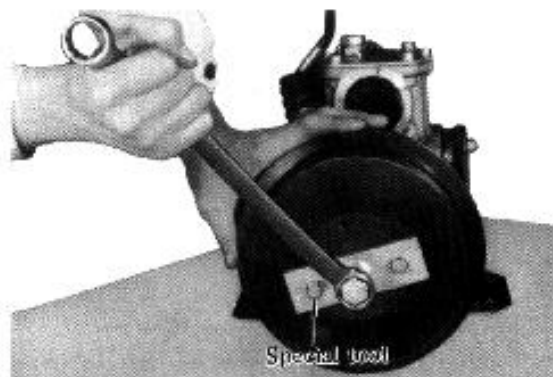

Fig. 9-4
4. Remove the parking brake drum with the aid of the special tool flywheel puller (09923-05110) as shown in the Fig. 9-4.